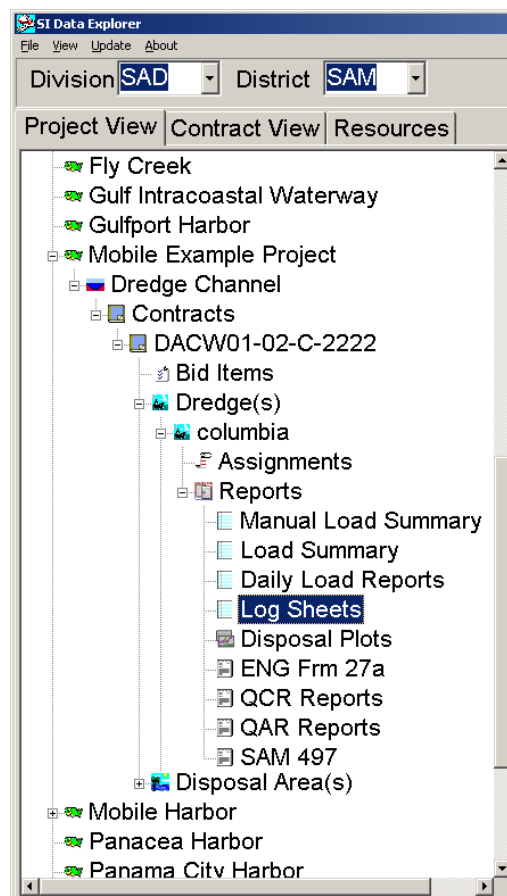
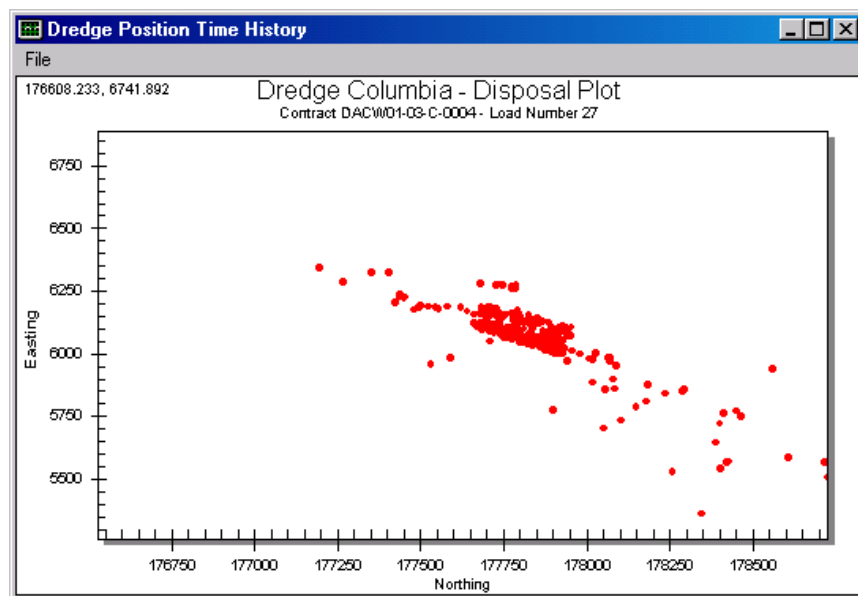

Figure 1.43 Log Sheets
Figure 1.48 Disposal Plot
Log sheets are created for a dredge in Silent Inspector to monitor and record useful information about the dredges activities. While the Manual Load Summary concentrates primarily on the elapsed time for each load, the log sheet includes more detailed information of dredging activities such as the location of dredging and estimated production. To create a log sheet in silent inspector, click on Log Sheets under reports as shown in Figure 1.43. The Log Sheets Window will now appear as in Figure 1.44. Log sheet entries are created, edited, filtered, and sorted in the same manner as Manual load summaries described in the previous section.
Unlike manual load summaries, load summaries in silent inspector are automatically created from data that is sent directly from the dredge by satellite modem located on the dredge or uploaded from a zip disk. To view the load summary for a dredge on a specific project, click on **Load Summary** in the Silent Inspector Data Explorer window (see Figure 1.43). The load summary window will then appear as in Figure 1.45. The loads can be filtered in the same manner as for the manual load summary by:
1. Click **Disposal Plots** for a contract as seen in Figure 1.43. The disposal plot for all recorded dredge loads will appear as shown in Figure 1.48.